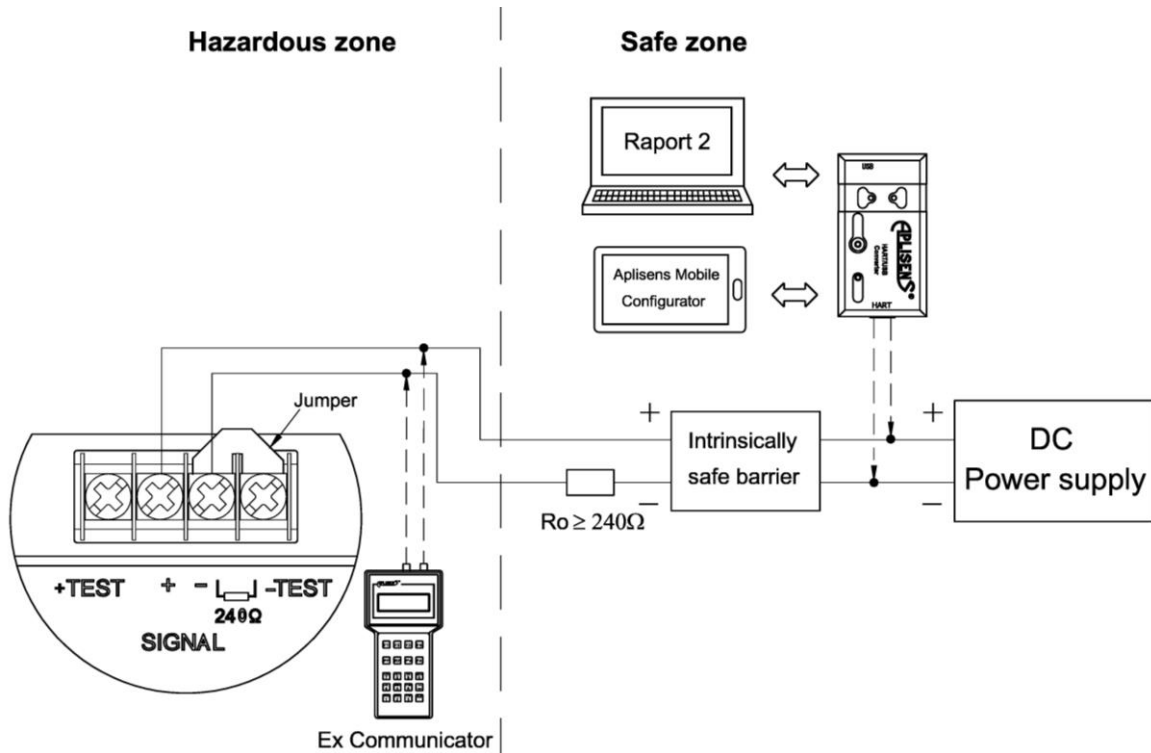

Figure 30. Electrical connection 4...20 mA of HART to transmitter in Exi version
- remove HART communication jumper ②;
- after completing the communication, install the HART communication jumper ② on the correct position according to (→ Figure 30);